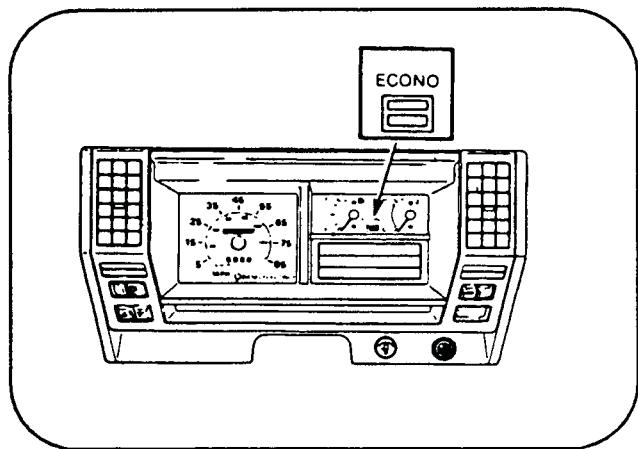
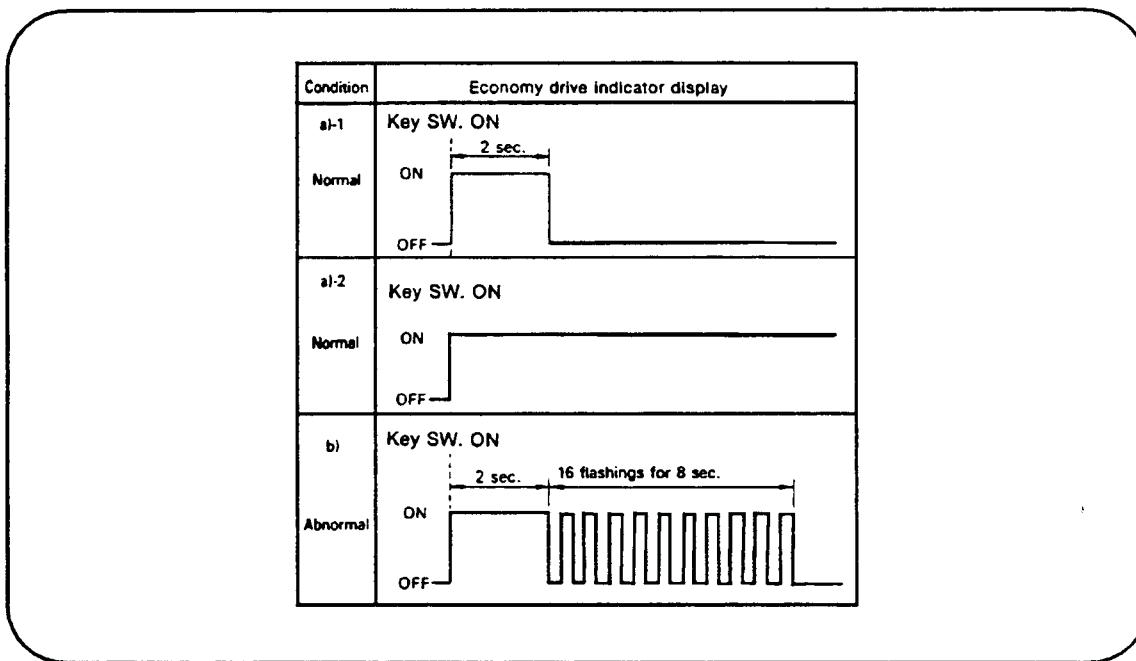

Figure 1
Figure 6
**1988 VEHICLES:** The instrument panel ECONOMY light functions as a pattern monitor lamp during self diagnosis (See Figure 1). Turn the ignition to the "ON" position (The Economy Switch can be in either the ECONOMY or NORMAL mode). The pattern monitor lamp will begin to blink rapidly indicating that an electrical problem does exist. If there were no problems detected, the light will
**1989 and 1990 vehicles:** The 1989 vehicles inform and provide codes in the same manner as the 1988 vehicles. The only difference is in the operation of the Economy Drive Indicator Display. On 1988 vehicles if a code is present, when the key is turned to the "ON" position, the ECONOMY light will have a continuous flash regardless of whether the button is in the ECONOMY MODE or NORMAL MODE. If no codes are present the light will come ON for two seconds and go out regardless of what position the switch is in. On 1989 and 1990 vehicles, if NO codes are present and the switch is in the NORMAL MODE, the ECONOMY will come on for two seconds and go out. If the switch is placed in the ECONOMY MODE and NO codes is present, the ECONOMY light will come on and stay on. If codes ARE present, the ECONOMY light will have a continuous flash regardless of what position the ECONOMY switch is in (Refer to Figure 6 Below). The Code retrieval method is the same as 1988 vehicles. Refer to figures 3, 4 and 5 to obtain and determine codes.
**1991 to 1993 vehicles:** The "Economy Drive Indicator Light" serves as a "Pattern Monitor Lamp" during self diagnosis as explained and shown in Figure 1. The "Economy Light" will blink a steady pattern when the ignition switch is turned to the "ON" position and an electrical problem has been detected as explained and shown in Figure 6.